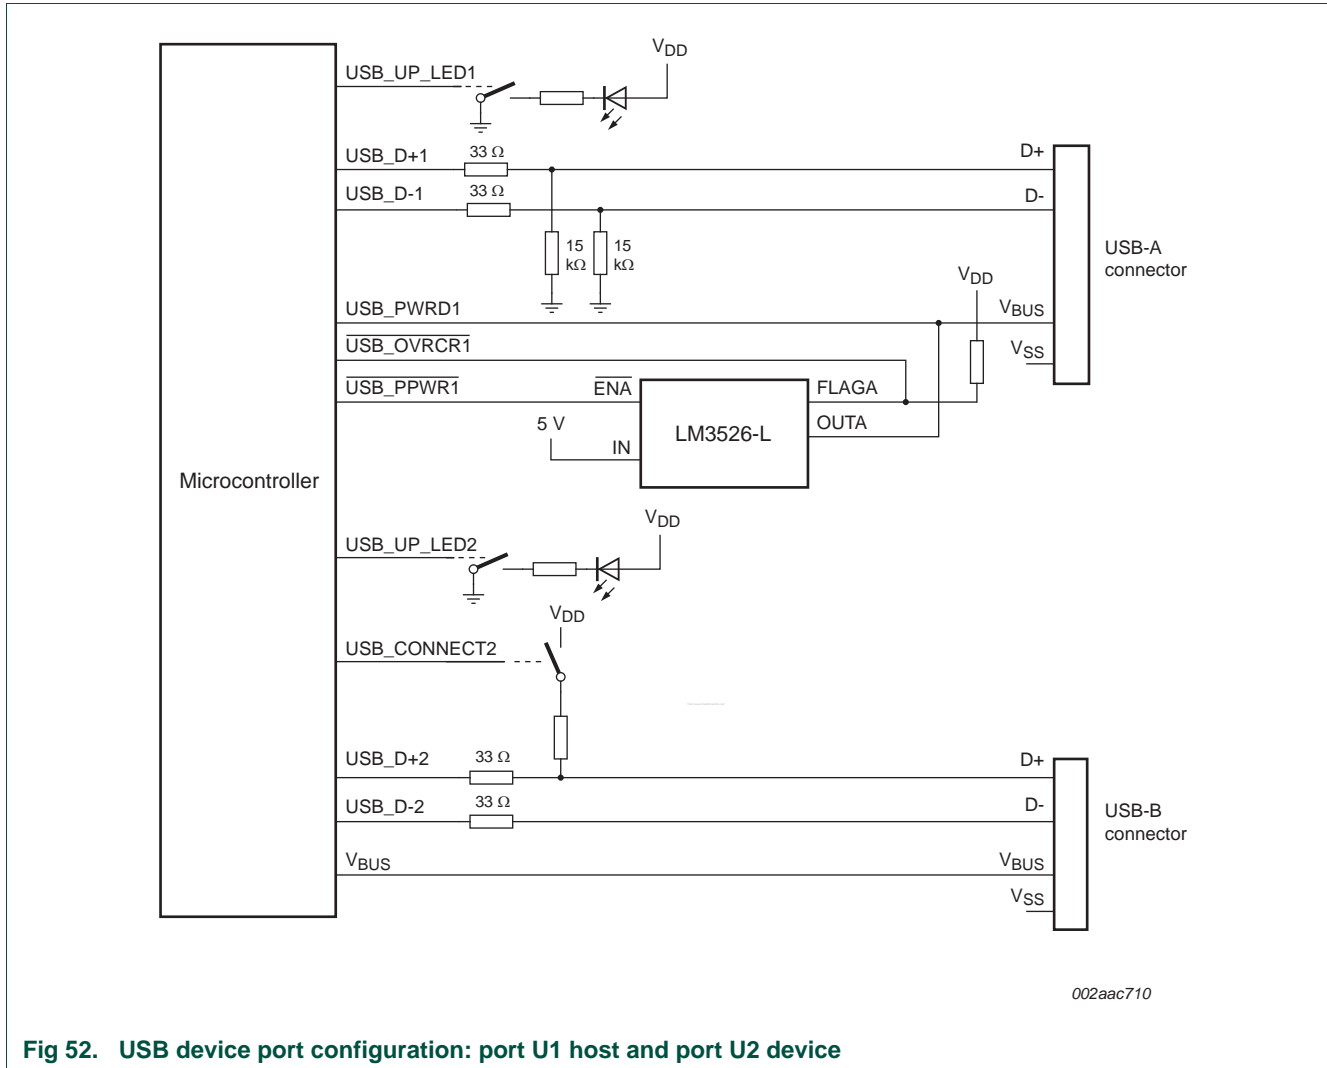

Fig 52. USB device port configuration: port U1 host and port U2 device
- One Host port and one Device port (see Figure 52)